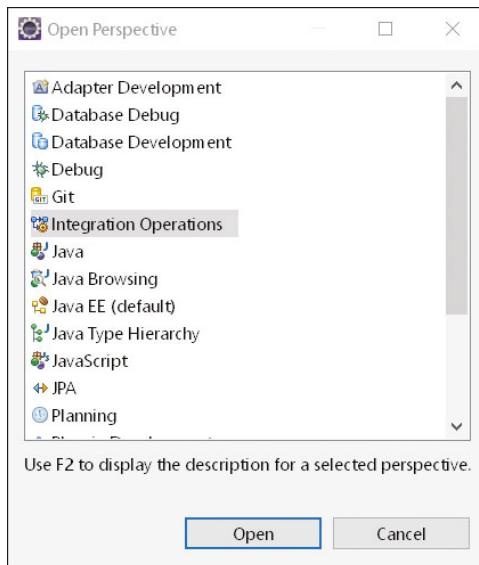

Figure 6.104 Selecting the Integration Operations Perspective in Eclipse
1. Open the **Integration Operations** perspective in Eclipse. Choose **Window • Perspective • Open Perspective • Other**, and select the **Integration Operations** perspective (Figure 6.104).